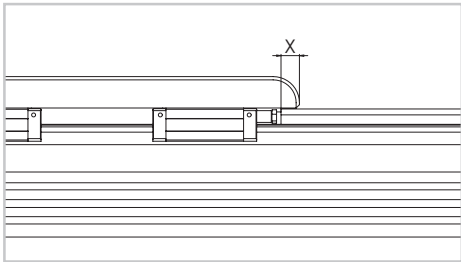

Fig. 2
- 1) Take the measurement of the distance X from the carriage to the belt tensioner (Fig. 2)